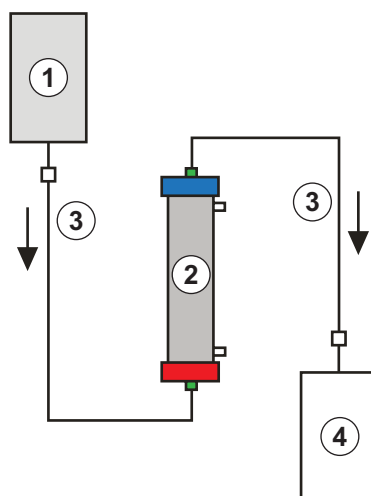

Fig. 6-4 Set-up for ultrafilter rinsing
Materials: See legend to Fig. 6-4
2. Attach the second connection line and the collection bag as shown in Fig. 6-4 with the blue, plasma-side filter opening.